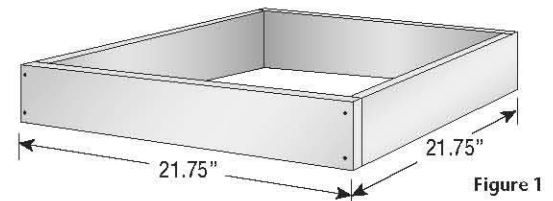

Figure 1
Step 1 Assemble a curb with the **outside** dimensions of 21.75" x 21.75" (see Figure 1). Use pressure-treated lumber secured at all four corners with wood screws or galvanized nails (use 2" x 6" or larger lumber - adhere to local building codes).